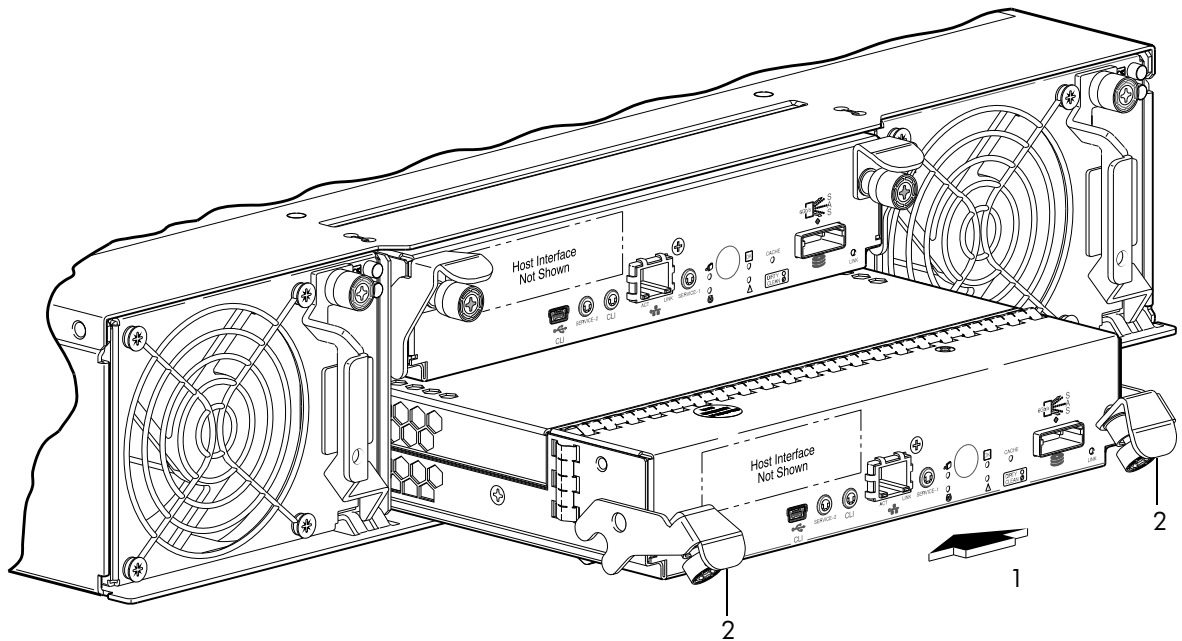

Figure 17 Inserting a controller module
1. Loosen the thumbscrews; press the latches downward (see Figure 17 on page 29).
2. Ensuring that the controller module is level, slide it into the enclosure as far as it will go (1).